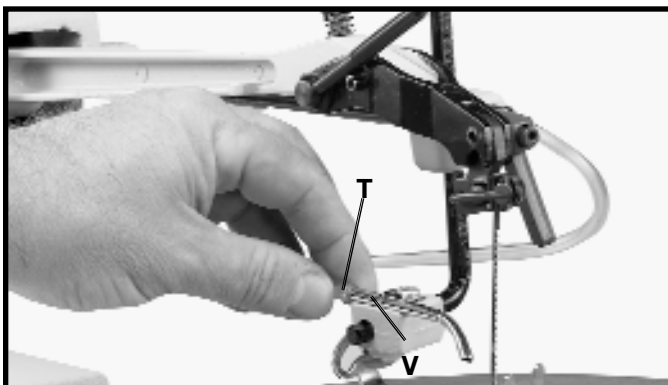

Fig. 14
12. Slide end of chip blower tube (T) Fig. 14, onto end of air nozzle (V), as shown.